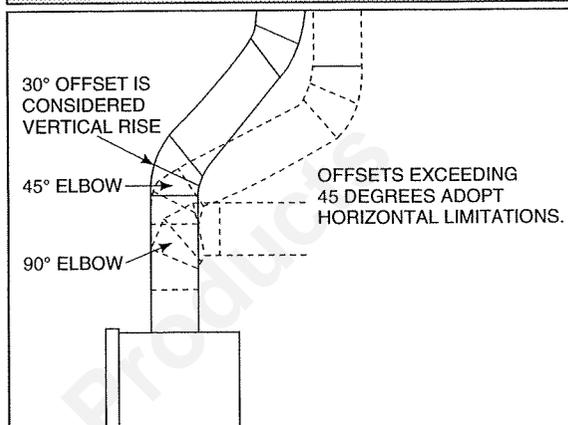

Figure 6
2. **Using Elbows.** Elbows exceeding 45 degrees from the vertical shall be considered horizontal and therefore adapt horizontal run limitations. Each such elbow shall be considered the equivalent of 2 feet of horizontal run. See Figure 6.